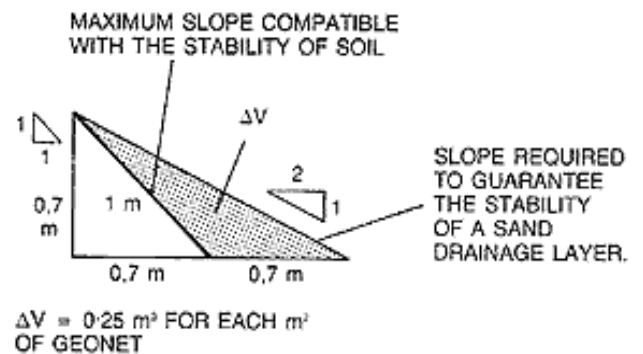

Fig. 1 - Geonets allow to use the maximum allowable slope
- An increase in the available volume for storage of waste equal to 0.25 m³ for each m² of geonet (Fig. 1);